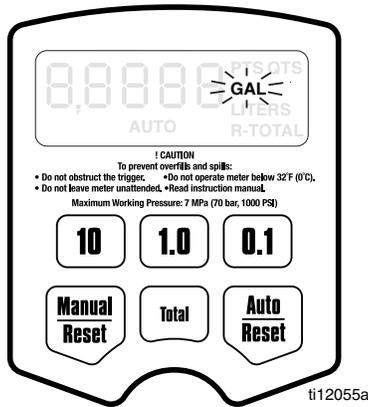

FIG. 24
b. Press and hold the **Auto / Reset** button to display the Units of Measure Menu (FIG. 24, page 17). When this menu is displayed the last set Unit of Measurement blinks in the lower right corner on the screen.
## Units of Measurement (FIG. 24)